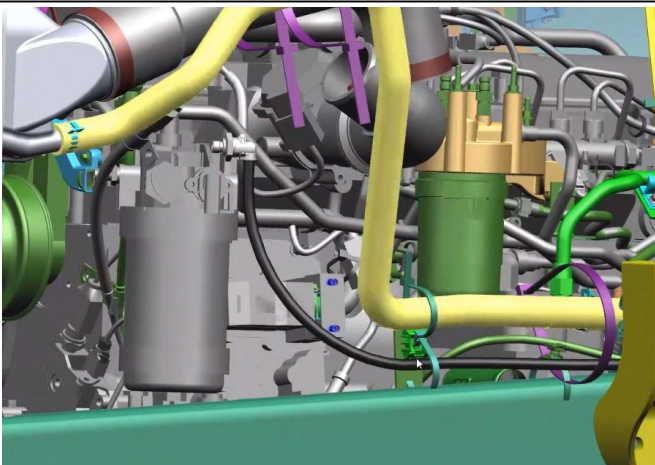

Figure 3: Air Compressor Inlet hose routed above fuel line
- 3. Air Compressor inlet hose routing shall be routed above and parallel to the fuel line, positioned in the highest clipping point in the stanchion bracket, and securely fastened with a tie strap (Figure 3)